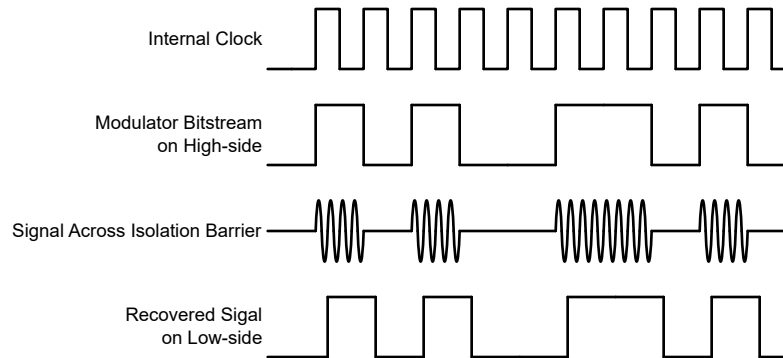

Figure 7-1. OOK-Based Modulation Scheme
The AMC1350-Q1 uses an on-off keying (OOK) modulation scheme, as shown in Figure 7-1, to transmit the modulator output bitstream across the SiO₂-based isolation barrier. The transmit driver (TX) shown in the Functional Block Diagram transmits an internally-generated, high-frequency carrier across the isolation barrier to represent a digital *one* and does not send a signal to represent a digital *zero*. The nominal frequency of the carrier used inside the AMC1350-Q1 is 480 MHz.